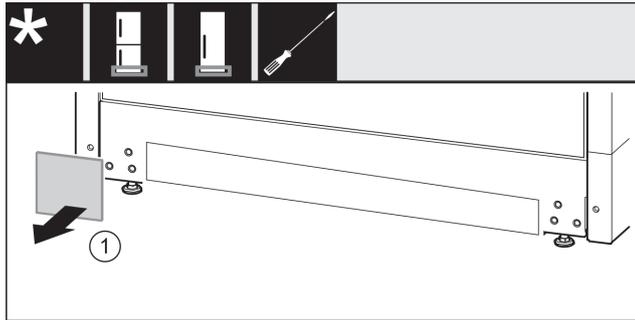

Fig. 18
- ▶ Remove the cover. Fig. 18 (1)